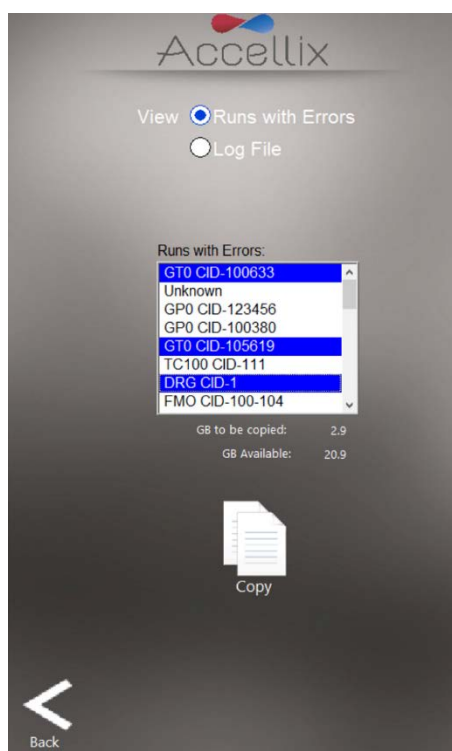

Figure 21: Copy Test Runs with Errors screen
- Files related to test runs for which errors were generated can be selected and copied (Figure 21). Individual cartridge data folders can be selected together by holding down the Control Key on an attached keyboard while tapping on an entry in the list. Tap the **Copy** Icon.